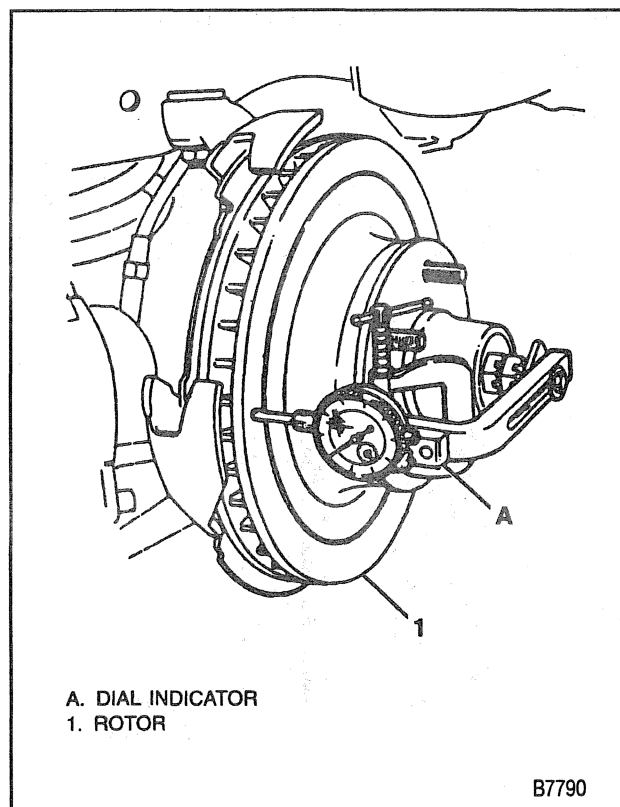

Figure 3—Inspecting for Lateral Runout
2. Fasten a dial indicator to the steering knuckle so the indicator button contacts the rotor surface about 13 mm (0.5 in.) from the outer edge (figure 3).